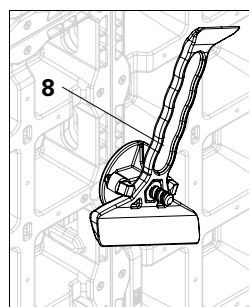

Fig. B9.03d
5. Position the DUO 62 compensation waler (**25**) on the DUO corner tie (**23.1**), and tighten with the wingnut counterplate (**54**) by hand or using the DUO cleaning device (**8**). (Fig. B9.03d)